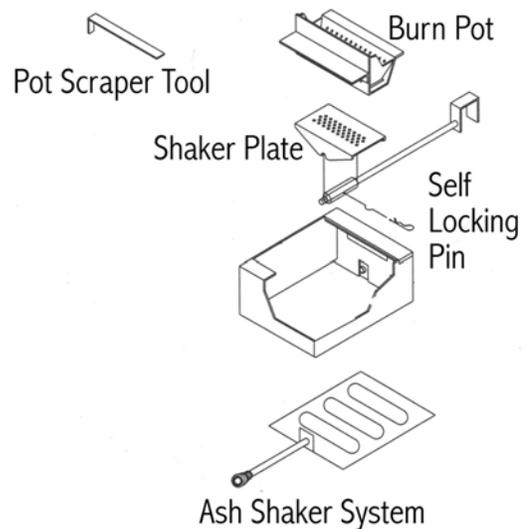
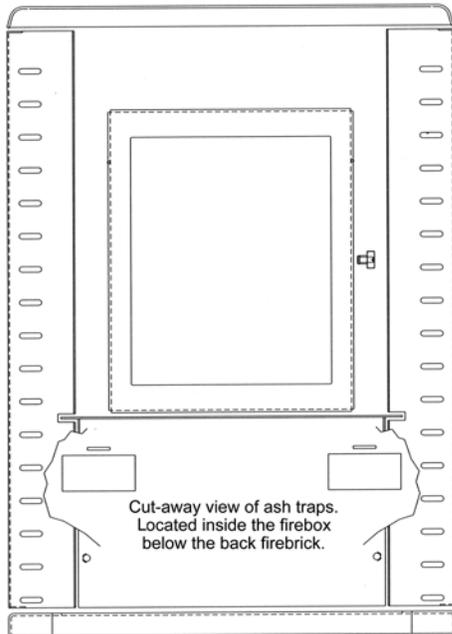

Figure 3
Figure 4.
1. Check grate bottom (See figure 3) to determine if holes are plugged. Clean as needed. With proper precautions the grate may be partially cleaned while the stove is hot. Follow these steps:
2. Remove ash buildup under the grate bottom daily. (See figure 3 on previous page. Ash shaker system.)
4. Check exhaust clean outs (Figure 4). Use scraper shown in (Figure 3) to scrape ash into ash pan. IT IS CRITICAL THAT YOU KEEP ASH CLEAN OUT CLEAN FOR SATISFACTORY PERFORMANCE.
2. The Pepin has 2 exhaust cleanouts located below the rear ceraboard. Remove covers and clean regularly. (*See figure 4 on page 9.*)
3. Clean burn grate holes at least weekly, remove the burn grate. Use a small metal object to clean out plugged holes. (*See figure 3 on page 6.*)
Figure 4 shows the location of the ash traps. Frequency of cleaning depends on the amount of fuel being burnt and the quality of the pellets. Fuel with low ash content is recommended. **Failure to clean the ash traps can cause the stove to become plugged with fly ash.**
1. **Spring Shutdown.** After the last burn in the spring, cool the stove. Remove all pellets from the hopper and the auger. Thoroughly clean the burn grate, burn grate box, ash pan and ash traps behind the ash pan. (To locate the ash traps see figure 4)